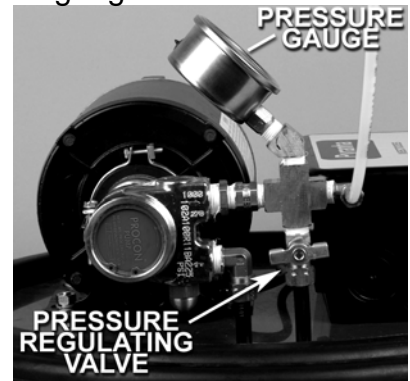

Figure 7 – Top of Drum Showing Pressure Gauge and Pressure Regulating Valve
17. Turn the pressure regulating valve clockwise until the pressure gauge reads between 180 and 200 PSI (figure 7) and all nozzles are spraying a fine, even mist. Check again for any leaks at the tubing connections. NOTE: The system works best at 185-195 PSI and must not be set below 175 PSI or over 200 PSI. **DO NOT OPERATE SYSTEM WITH VALVE CLOSED!**